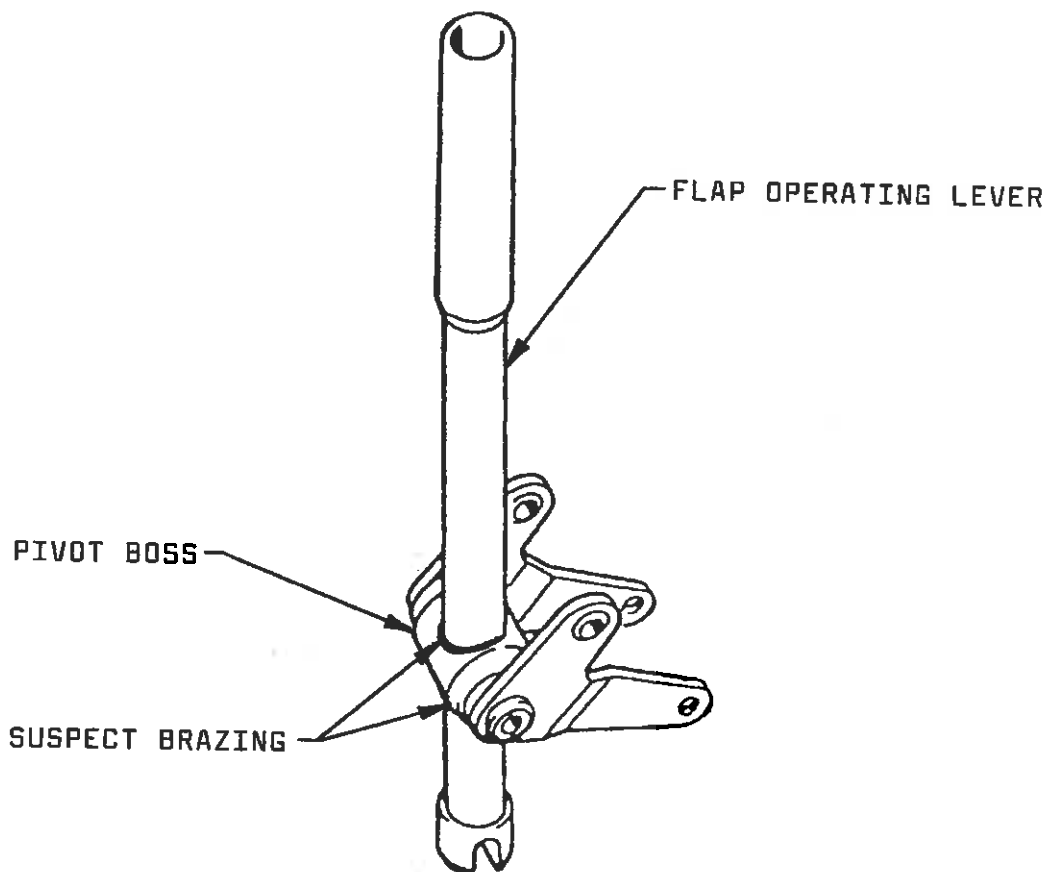

FIGURE 1 FLAP OPERATING HANDLE
3. Inspect, using a strong light and mirror, all brazing between lever and pivot boss, above and below pivot, refer Figure 1.